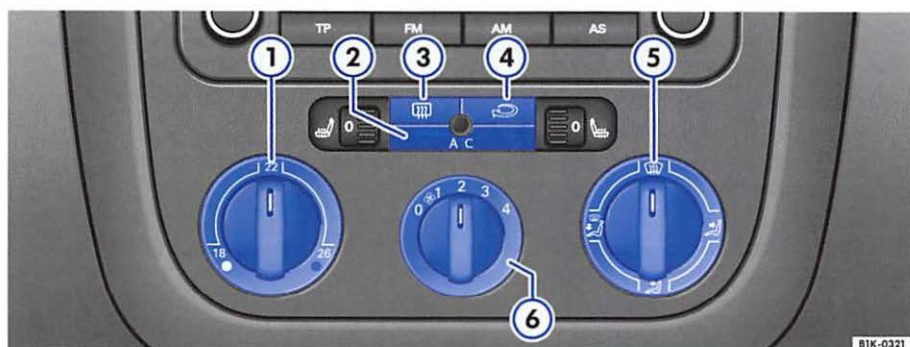

Fig. 74 In the center console: Climatic controls
- Turn the temperature selector ⇒ fig. 74 ① to the right until the desired heat output is reached. We recommend 22° C.
- Turn the fan switch ⑥ to one of the settings 1-4.
- Use the air distribution control ⑤ to guide the air flow where you want it: (to the windshield), (into the vehicle interior), (to the footwells) and (to the windshield and to the footwells) ⇒ page 77, "Air recirculation mode".
- Switch on the air conditioning by pressing the ⇒ fig. 74 (AC) button (the indicator light in the button should be on).
- Use the air distribution control ⑤ to guide the air flow where you want it: (to the windshield), (into the vehicle interior), (to the footwells) and (to the windshield and to the footwells).